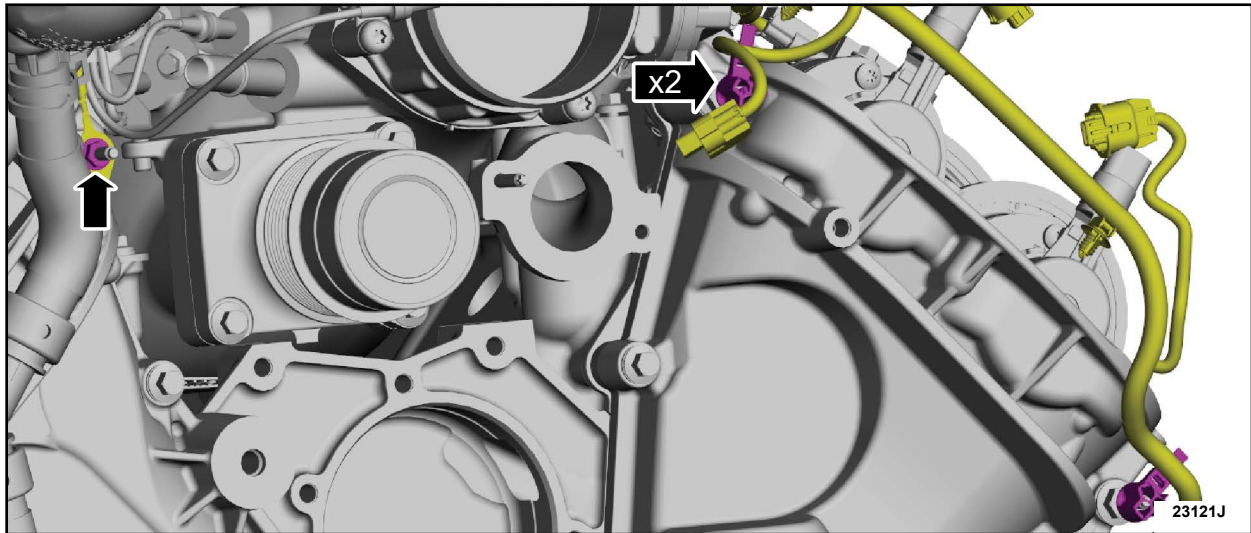

FIGURE 8
21. Detach the wiring harness retainers, remove the nut and ground wire. See Figure 8.